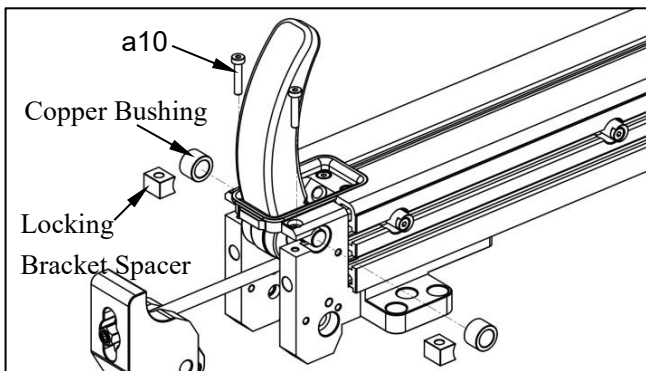

Fig. 36
6. As shown in Fig. 36, remove two M4 screws (a10), two locking bracket spacers, and two copper bushings.